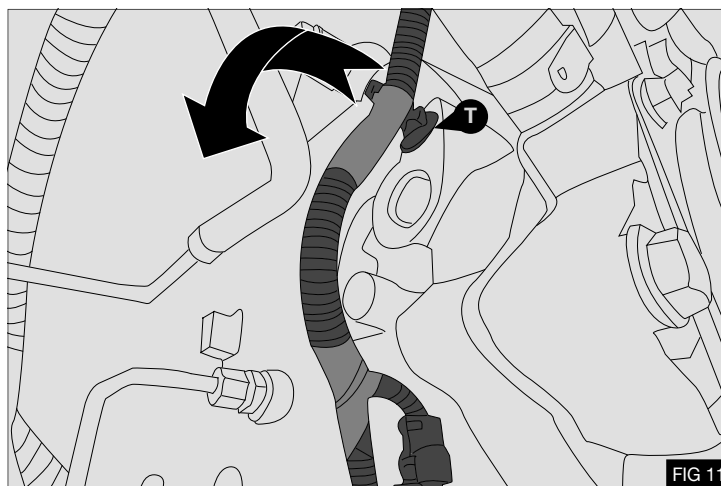

FIG 11
22. Remove the loom support (T) from the M8 upper mounting hole. - Fig 11